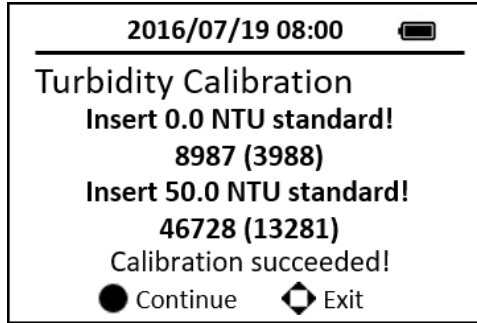

Figure 20 Turbidity Calibration-2
8. Press the **OK** key to continue high range turbidity calibration. If high range turbidity calibration not required, press any keys to exit. (Figure 20)